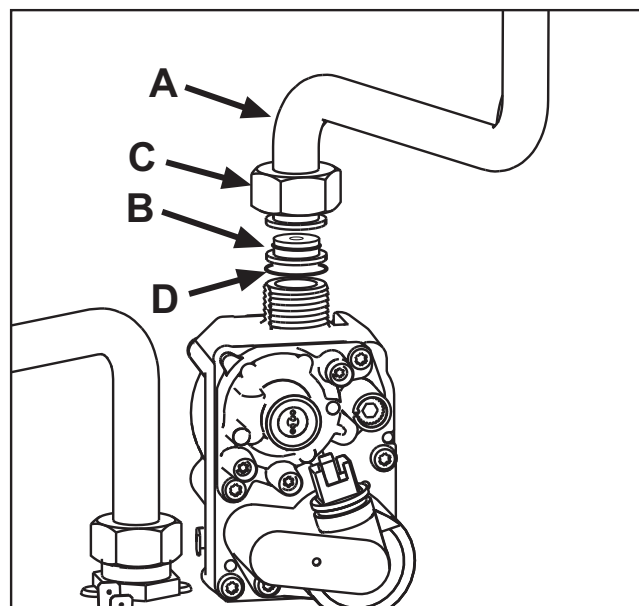

fig. 23
3. Unscrew the ring C and remove the gas pipe A from the gas valve (see fig. 23);
4. Replace the nozzle B inserted in the gas pipe with that contained in the conversion kit, interposing seal D (see fig. 23).